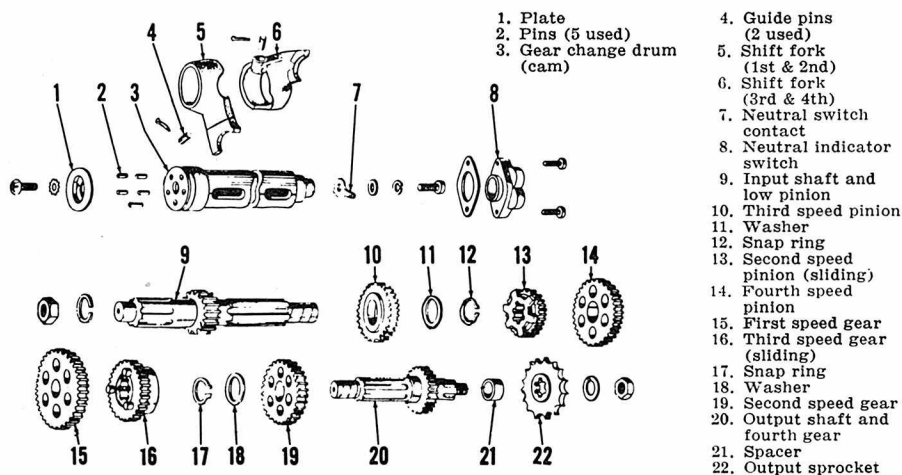

Fig. K1-15—Exploded view of transmission assembly.
Refer to Figs. K1-15, K1-16 and K1-17. Output shaft low gear (15—Fig. K1-15) should be installed with grooved side facing toward third gear (16). Mating surfaces of crankcase halves should be coated with non-hardening type sealer.